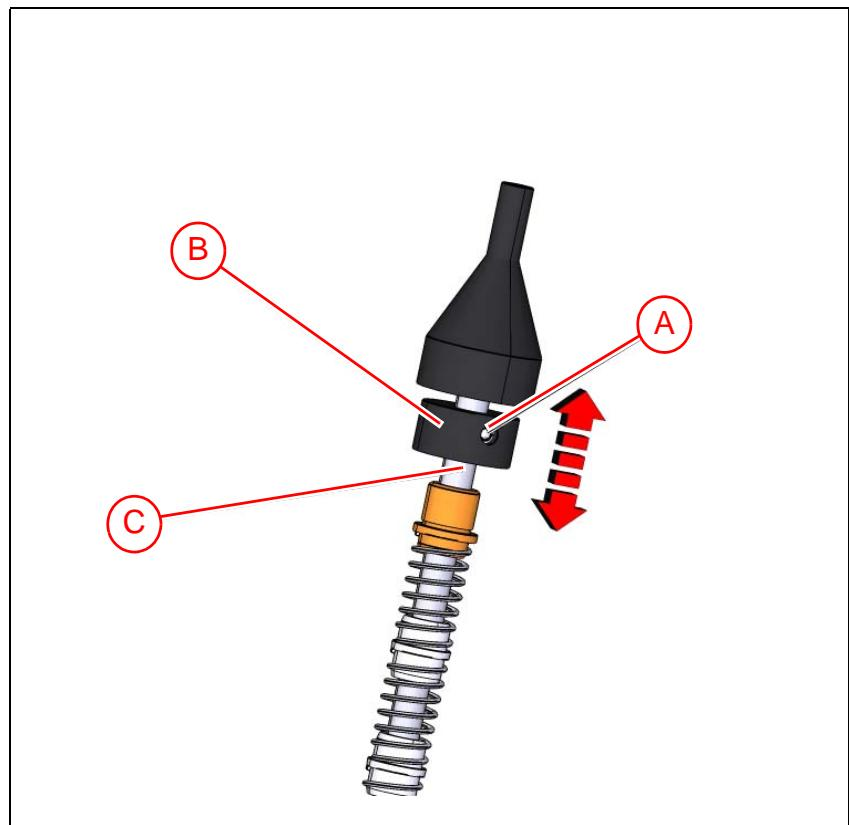

Figure 6-17. Adjusting Z indicator.
- Loosen the M2 screw ('A' in Figure 6-17) on the cylinder ('B').